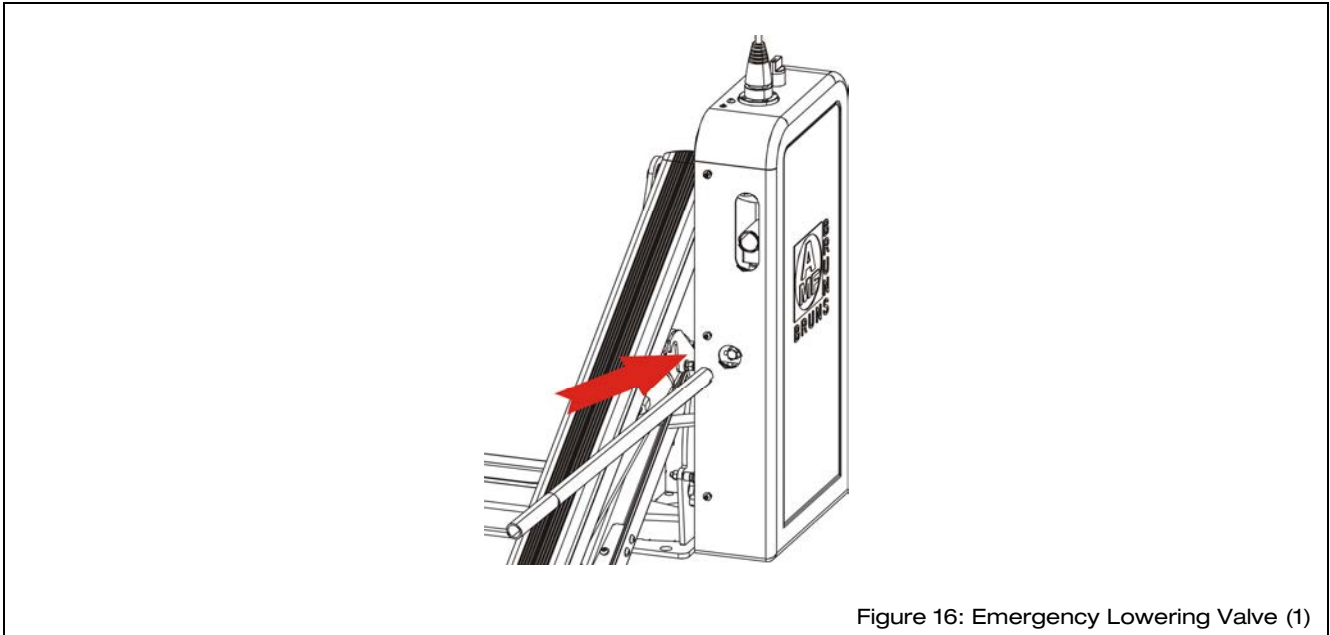

Figure 16: Emergency Lowering Valve (1)
- ⇒ Insert the operating lever into the aperture in front of the emergency lowering valve (see Figure 16).